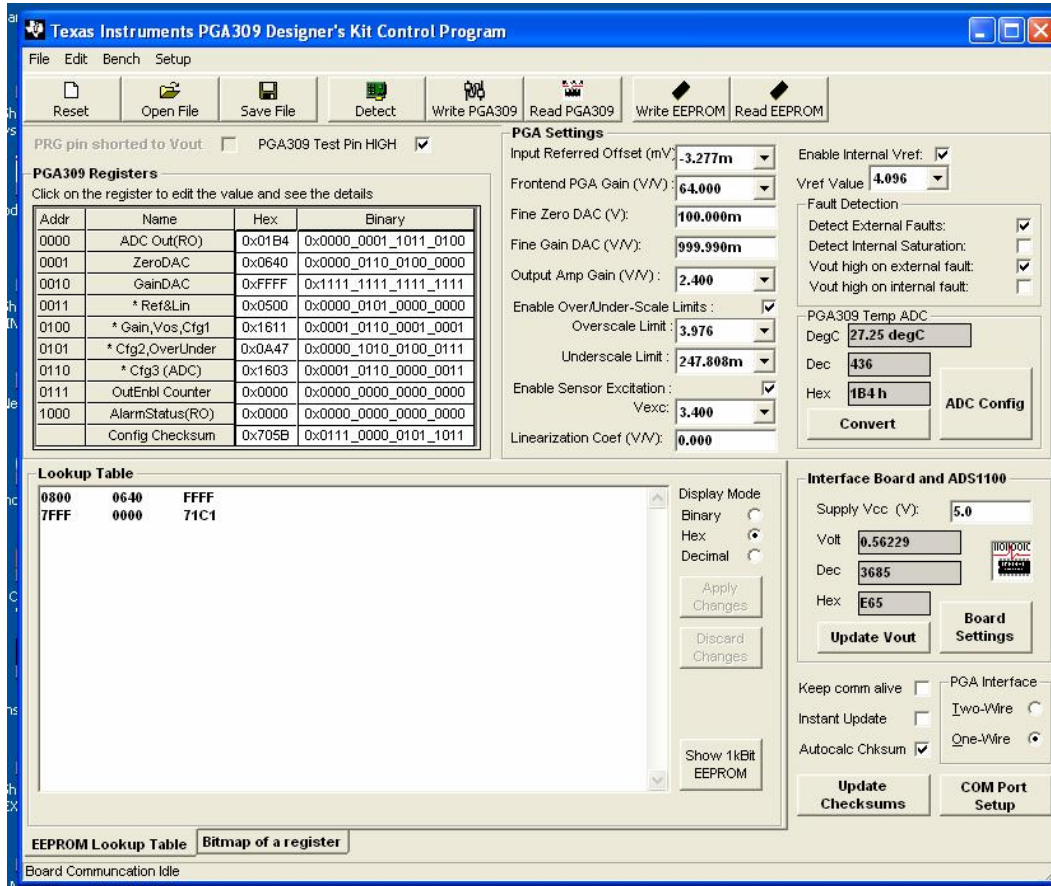

Figure 14: Main Window After Open File = "PGA309 Test.txt"
The Main window will appear as in Figure 14.
- Write these settings to the PGA309 Sensor Interface Board EEPROM by clicking on "Write EEPROM" in the Main Window. Click on "Read EEPROM" and then click on "Read PGA309". The Main Window should look the same as in Figure 14 .